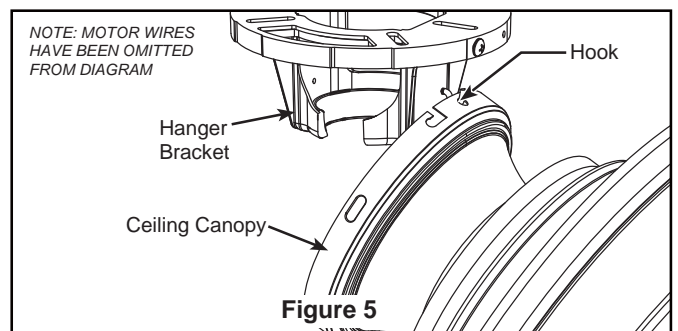

Figure 5
5. Reinstall the hanger ball on the downrod as follows. Route the wires through the hanger ball. Position the pin through the two holes in the downrod and align the hanger ball so the pin is captured in the groove in the top of the hanger ball. Pull the hanger ball up tight against the pin. Securely tighten the set screw in the hanger ball. A loose set screw could create fan wobble. (Figure 5)
Hook the motor assembly onto the ceiling bracket assembly as shown. (Figure 5)